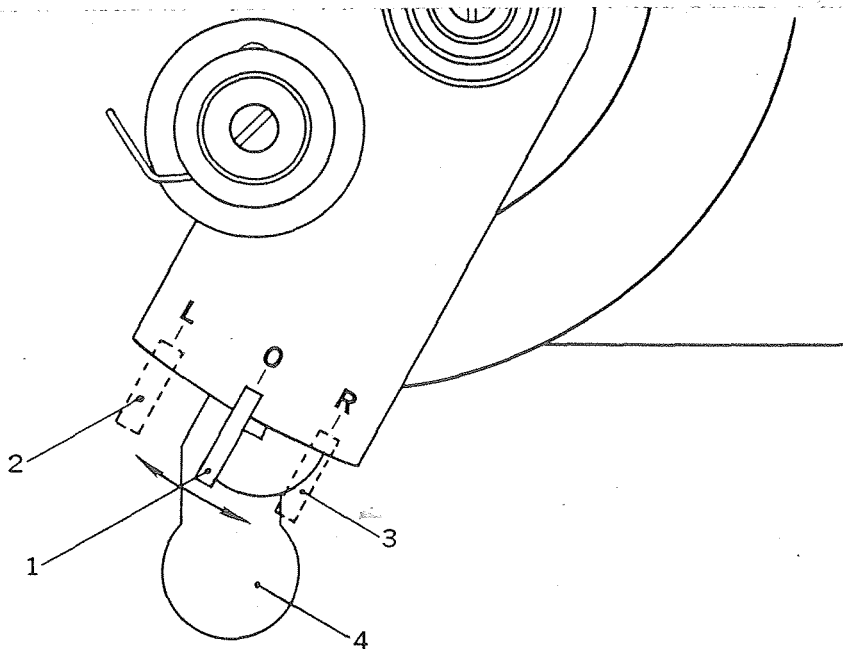
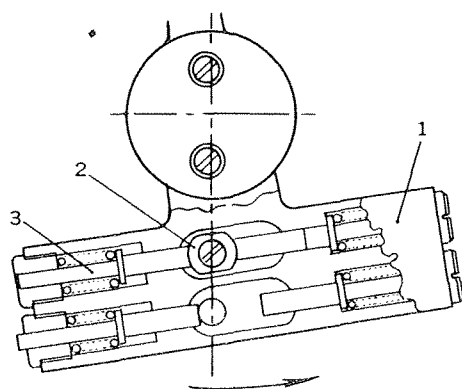

FIG. 37
FIG. 41A
NEEDLE BAR STOP MECHANISM (Fig. 37)
Pushing the needle bar change over lever (1) Fig. 37 to either position "L" or "R" will selectively suspend the reciprocating movement of either one of the two individual needle bars.
NEEDLE BAR RELEASE MECHANISM (Fig. 37)
When the needle bar change over lever (1) Fig. 37 is set to either "L" or "R" position, the rod end (9) of the selected needle bar, when same is in its highest position, will contact the underside of selector block (8) causing said needle bar to become disengaged from its driving mechanism.
OPERATION OF THE NEEDLE BAR CHANGE OVER FRAME Fig. 37
Shifting the needle bar change over lever Fig. 37 to "R" will cause the needle bar change over frame to move in direction of the arrow Fig. 41A.
When disengaging the needle bar stop pushing the lever release (4) Fig. 37 the needle bar change over frame and the needle bar change over frame connection return to their first position. Thereby, the slide block for needle stop separates from the needle bar stopping stud and returns to their first position.